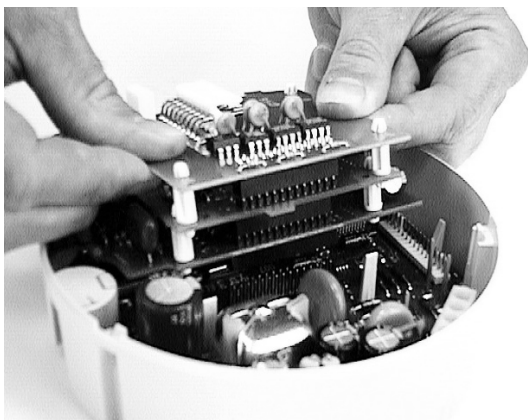

**Figure 7 : Connector holder placement**
4. Attach the plastic connector holder as shown in Figure 7. The connector holder snaps should extend through the holes in the kV RSX board and snap into place.
5. Attach the plastic connector holder as shown in Figure 7. The connector holder snaps should extend through the holes in the kV RSX board and snap into place.